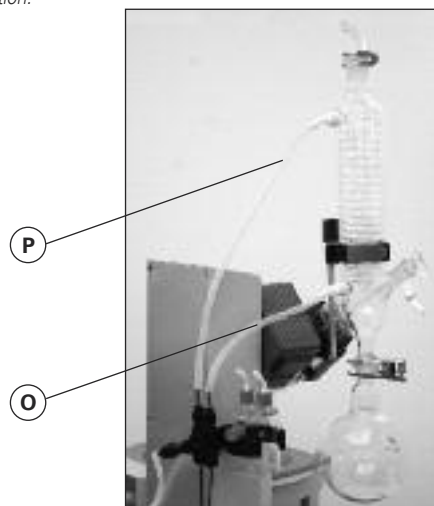

Fig. 17
- ☞ Connect the water hoses to the glass condenser (short hose (O) = lower outlet, long hose (P) = upper inlet) and fix hoses in place (fig. 17).